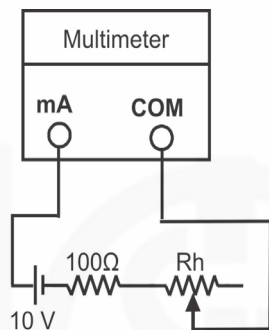

Fig. 8.3: Circuit for direct current measurement.
1. Connect a circuit containing a DC power supply, a resistor, a rheostat and a multimeter as shown in Fig. 8.3. (You have learnt about the symbols of electrical components in Unit 6 of CLT-104 course.)
1. Replace the DC power supply in Fig. 8.3 by an AC voltage source.